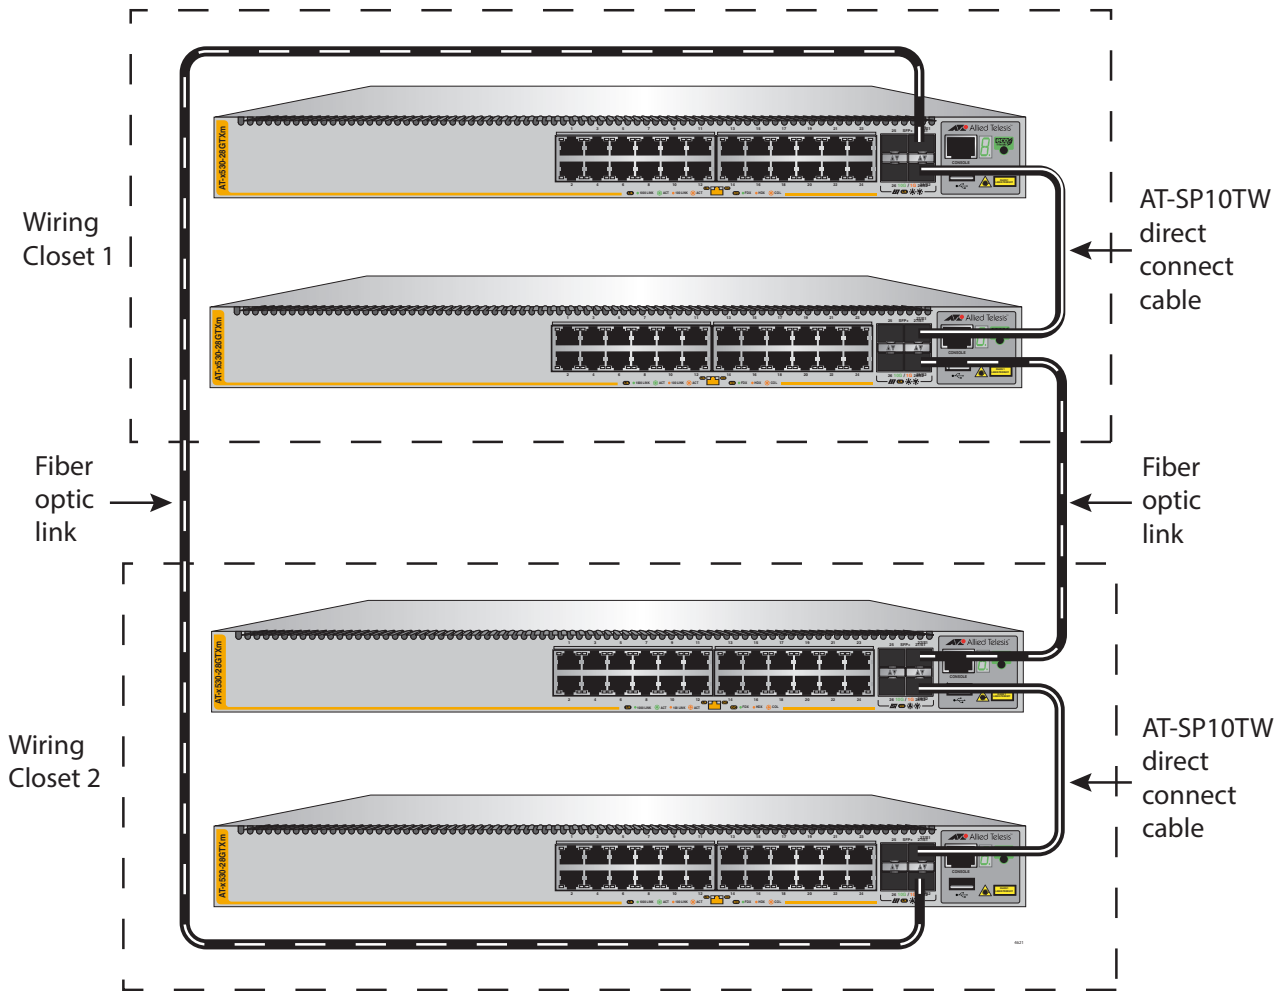

Figure 21. 10Gbps Stack Trunk with Both SFP+ Fiber Optic Transceivers and SP10TW Direct Connect Cables
- ❑ A stack trunk can have fiber optic and SP10TW direct connect cables in the same stack. See Figure 21 on page 68.
10Gbps stack trunks can have both fiber optic transceivers and SP10TW direct attach cables. The example in Figure 21 illustrates a stack of four switches located in two separate buildings. SP10TW direct attach cables connect switches that are in the same wiring closet while fiber optic transceivers connect the switches across the buildings.